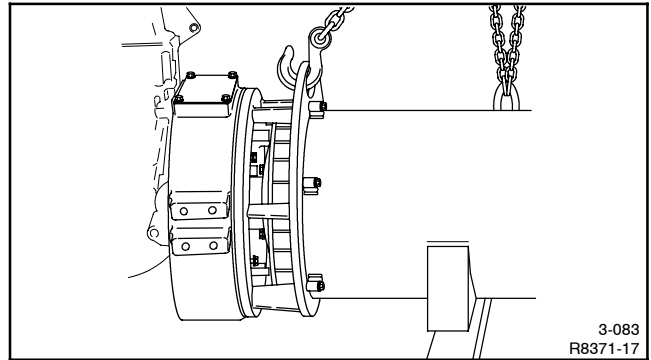

Figure 4-23 Aligning Adapter and Flywheel Housing
23. Move the alternator as necessary to align the alternator adapter and the flywheel housing. Fasten and final tighten the adapter to the flywheel housing using bolts and hardened lock washers. See Figure 4-23. Torque bolts to specifications.